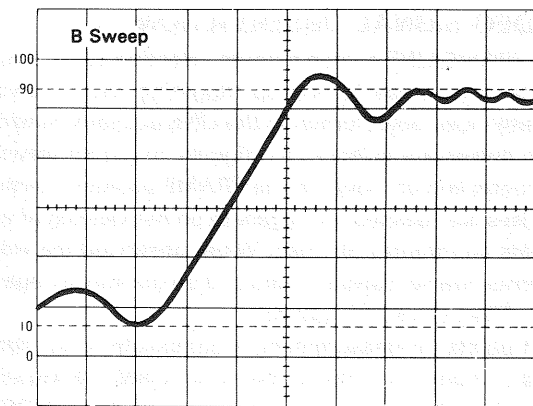

Fig. 13 Magnified view of intensified zone above
2. Set the B TRIG MODE to AFTER DELAY and set the HORIZ MODE to ALT. Adjust TRACE SEPARATION ③⑤ for easy observation of both the A and B traces. The upper trace is the non-magnified portion of the waveform with the magnified portion super-imposed as an intensified section. The lower waveform is the intensified portion displayed magnified.
3. The DELAY TIME MULT can be used to continuously slide the magnified portion of the waveform across the A sweep period to allow magnification of precisely the desired portion of waveform. To magnify the front part of the sweep, set B TRIG MODE ②⑦ to DELAY = 0.
4. Set the HORIZ MODE to B to display the INT intensified portion as a magnified B sweep. (Fig. 13)